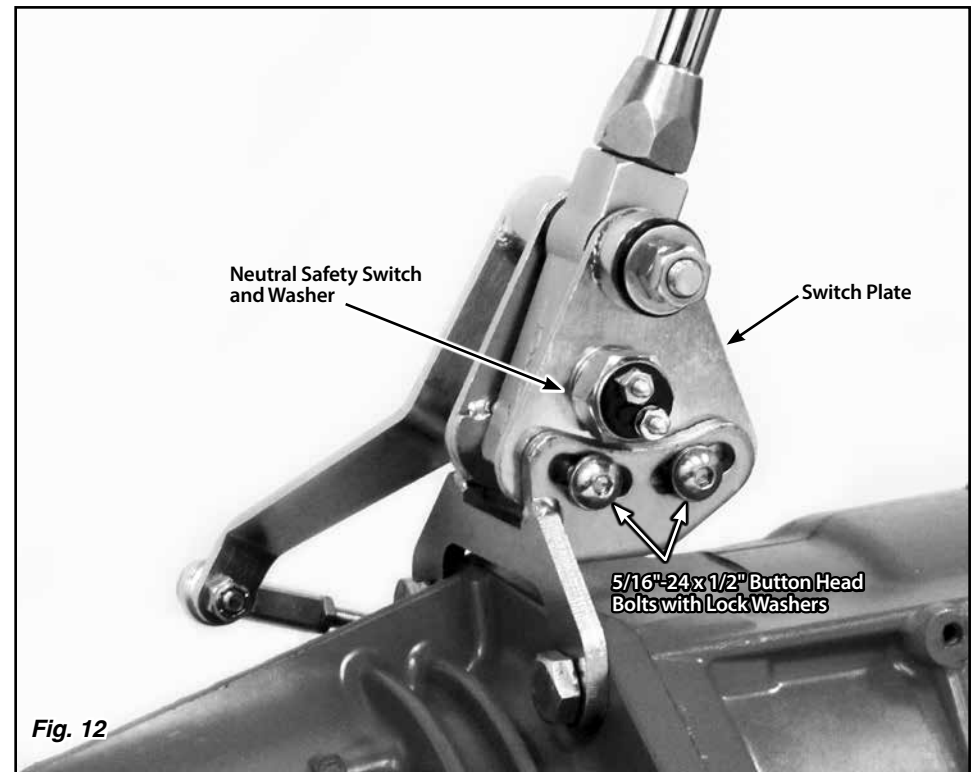

Fig. 12
**Step 17:** Remove the neutral safety switch and washer (Fig. 12) from the right side of the shifter using a 7/8" wrench or socket.
**Step 18:** Loosen, but do not remove, the two 5/16"-24 x 1/2" button head bolts that connect the right side welded banana bracket to the switch plate (the bolts are in curved, slotted holes). Fig. 12